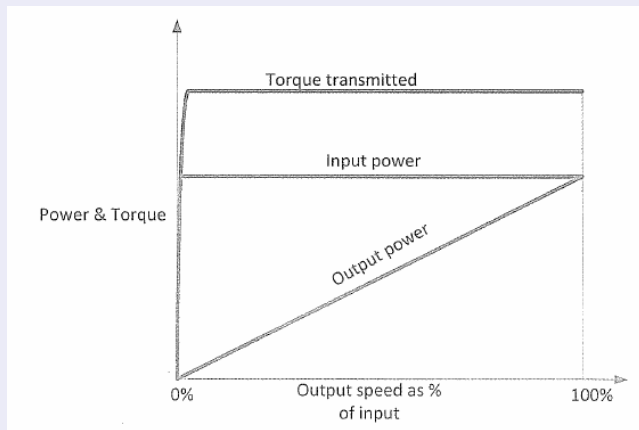

Figura: 7.3: Transmissão de torque em uma embreagem.
- 6. With a chain-driven motorcycle engine, the designer does, of course, have the option of modifying all the gear ratios by changing the final drive sprocket ratio. This would lower or raise both lines in Figure 7.3 relative to the engine torque curve.*